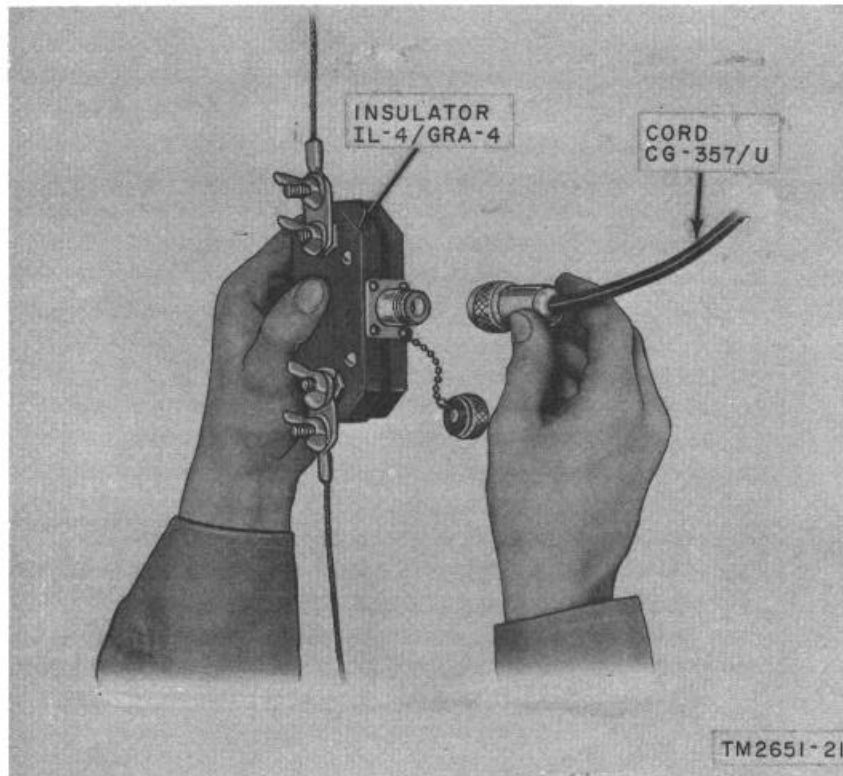

Figure 22. Connections to Insulator IL-4/GRA-4.
- (b) Connect the wire terminations of the two reel assemblies to Insulator IL-4/GRA-4 by means of the thumb nuts on the insulator (fig. 22).